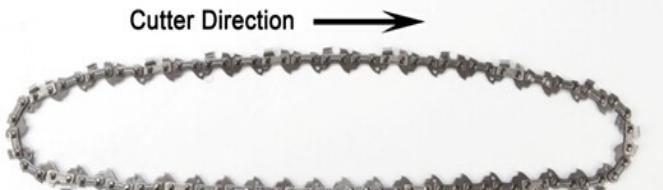

Fig. 7
- Lay out the new saw chain in a loop and straighten any links. The cutters should face in the direction of the chain rotation. If they face backwards, turn the loop over. (Fig 7)